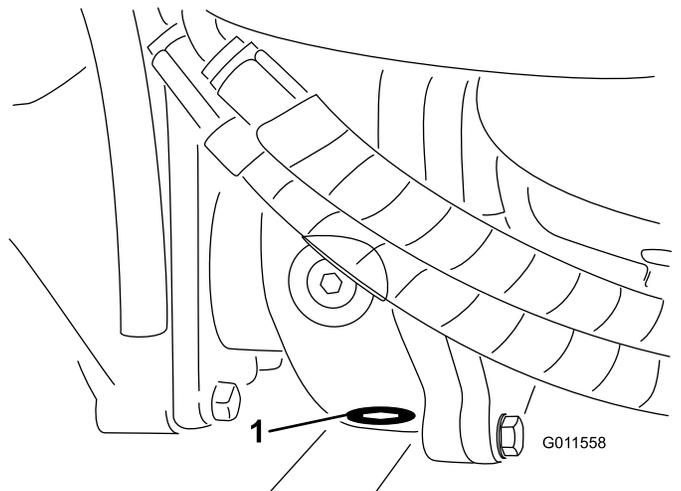

**Figure 107**
2. Clean the area around the 3 drain plugs; 1 on each end and 1 in the center (**Figure 107**).